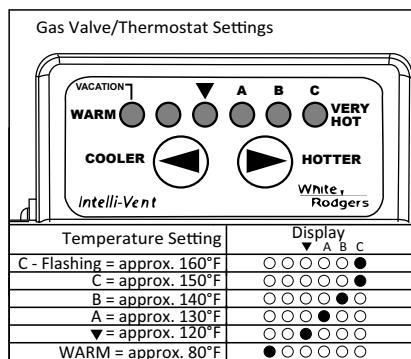

Figure 34 -Temperature settings.
- First, "wake up" the temperature indicators by holding down both COOLER ⏪ and HOTTER ⏩ buttons at the same time for one second. (See Figure 34.) The controls will remain active for 30 seconds before returning to "sleep mode."